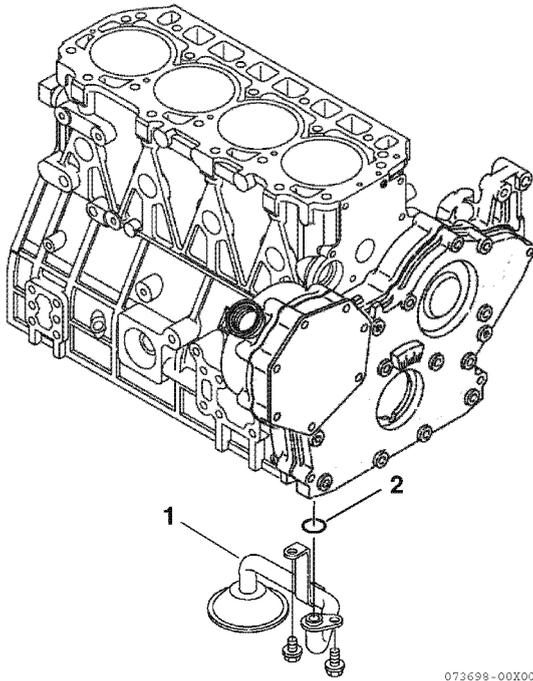

Figure 6-110
1. Reinstall the oil pickup tube (1, **Figure 6-110**) using a new O-ring (2, **Figure 6-110**).